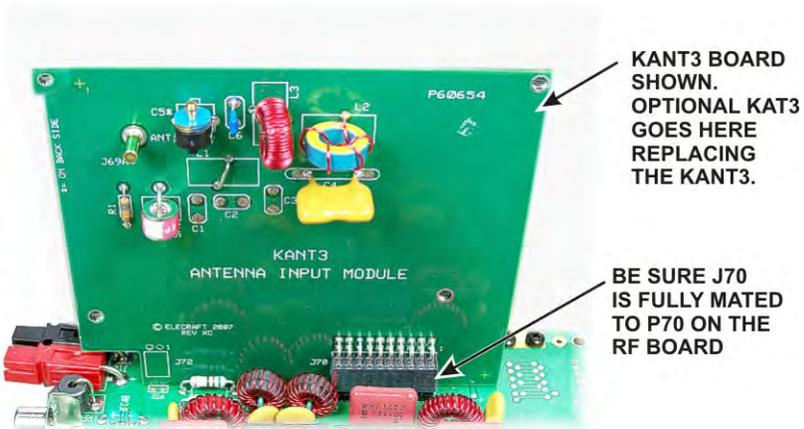

Figure 24. Installing the KANT3 or KAT3 Board.
□ Insert J70 on the KANT3 or the KAT3 board into P70 near the red and black APP power connectors at the right rear corner of the RF board. The KANT3 board is shown in Figure 24. The KAT3 board fits exactly the same way **with the toroidal inductors toward the center of the RF board.** I